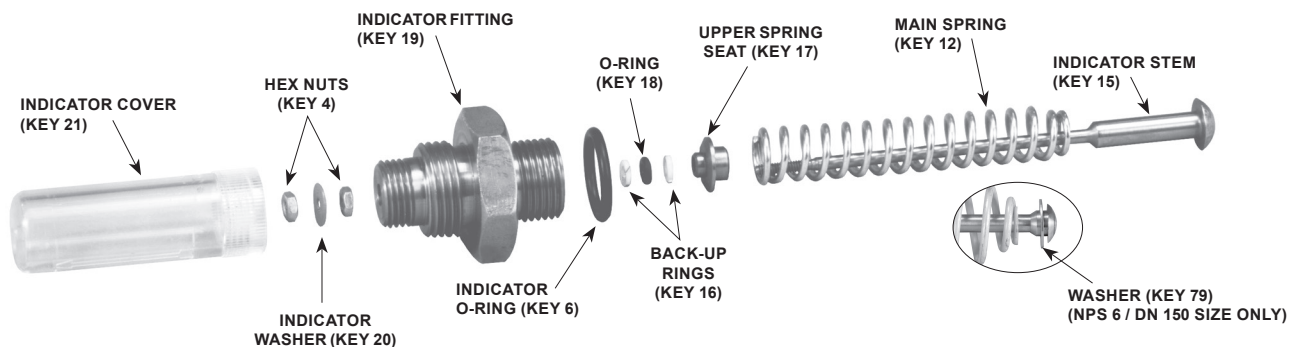

Figure 10. Travel Indicator Parts
Travel indicator assembly key numbers are referenced in Figures 10, 14 and 18. The indicator assembly can be removed and installed without removing the bonnet (key 2) from the body (key 1). Travel indicator maintenance is performed for two reasons:
2. Remove the first hex nut (key 4) and the indicator washer (key 20).
3. Unscrew the second hex nut (key 4) on the top of the indicator stem (key 15). Do not remove.
4. Use a wrench to remove indicator fitting (key 19).
6. Compress the main spring (key 12). Remove the second hex nut (key 4). Parts will separate easily when the hex nut is removed.
7. Slide the indicator stem (key 15) out of the indicator fitting (key 19). The main spring (key 12) and upper spring seat (key 17) will be free.
8. If necessary, use the indicator stem (key 15) to pry the back-up rings (key 16) and O-ring (key 18) out of the indicator fitting (key 19).
9. Check the indicator fitting O-ring (key 6). Lubricate and replace if necessary.
10. To replace travel indicator parts, lubricate all O-rings, back-up rings and threads. To reassemble, hold the indicator stem (key 15) and place the parts on the stem in the following order (see Figure 10).
- Washer (key 79 for NPS 6 / DN 150 size only)
- Main Spring (key 12), small end first
- Upper Spring Seat (key 17), make sure to place the large end toward the spring
- First Back-up Ring (key 16)
- O-ring (key 18)
- Second Back-up Ring (key 16)
- Indicator Fitting (key 19), the back-up rings (key 16) and O-ring (key 18) should slide into the indicator fitting and the small end of the upper spring seat (key 17) should slide into the indicator fitting.
- First Hex Nut (key 4)
- Indicator Washer (key 20)
- Second Hex Nut (key 4)